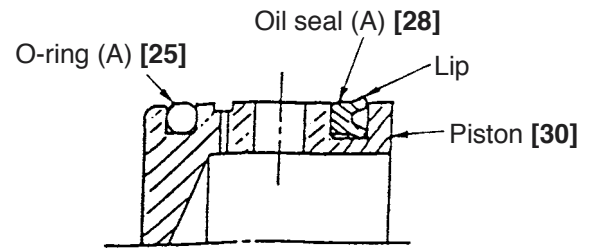

Fig. 9
(4) Mounting Oil Seal (A) [28]:
When mounting Oil Seal (A) [28] on the Piston [30], ensure that the lip portion of the oil seal is directed toward the rear surface of the piston, as illustrated in Fig. 9.